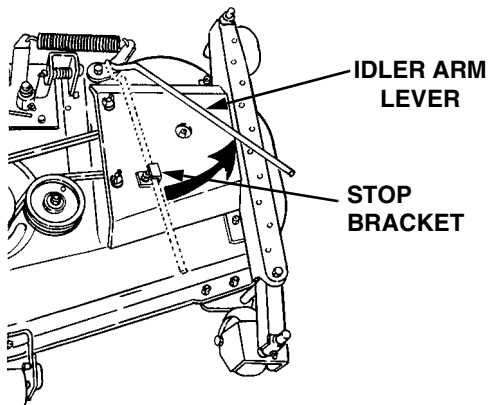

Figure 36
12. Disengage the deck idler arm lever from its stop bracket and release the spring tension by rotating the lever out and rearward (Refer to Figure 36).